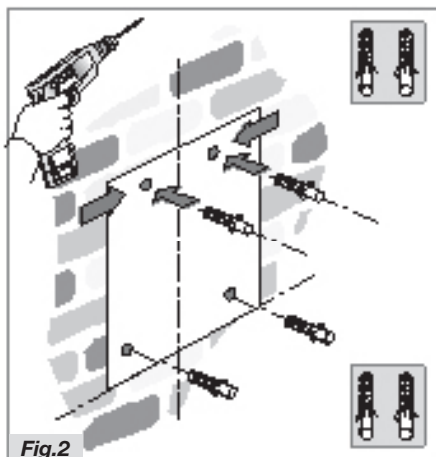

Fig.2
Attention: Replace the halogen bulb with one of the exact same type. Do not touch a halogen bulb with bare hands, and make sure you put the glass cover **C** (figure 2) back in place after replacing the bulb.
- Put the template on the wall, making sure the line coincides with the one previously marked on the wall. Mark the position of the holes and drill these (Fig.2).